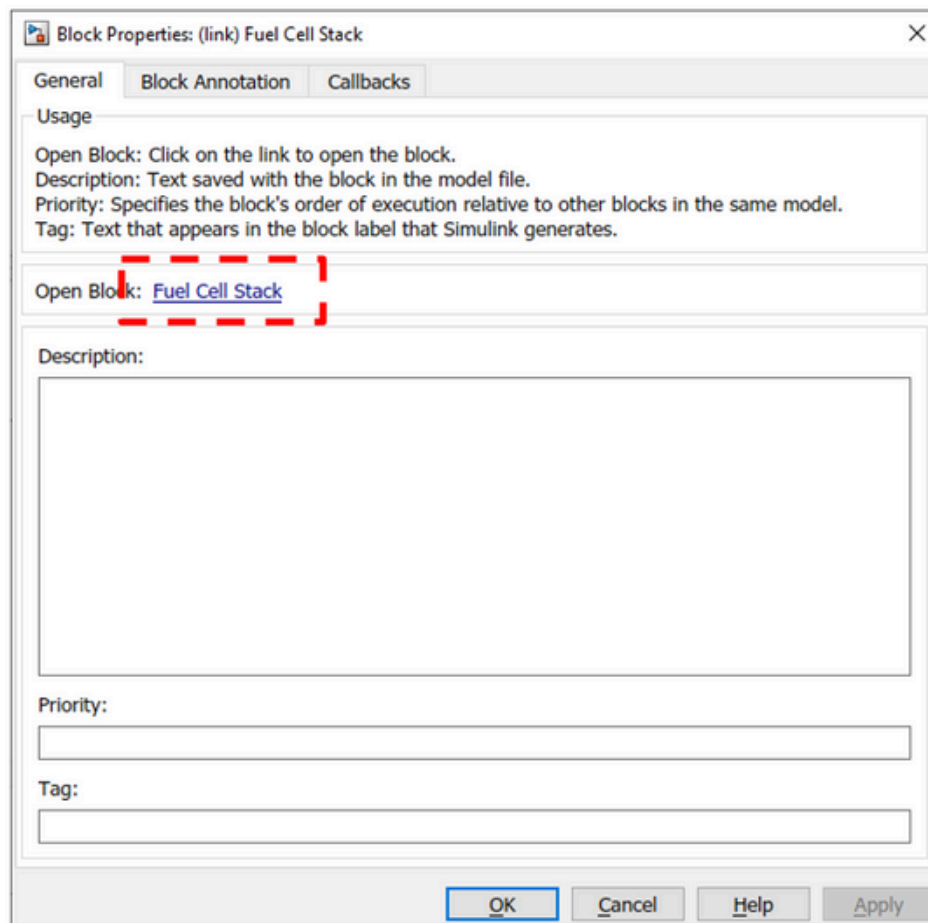

Figure 6.3 : Block Properties of Fuel Cell Stack[4]
5. Figure 6.3 shows the fuel cell stack properties.
6. Click Fuel Cell Stack as indicated in red box in Figure 6.3.